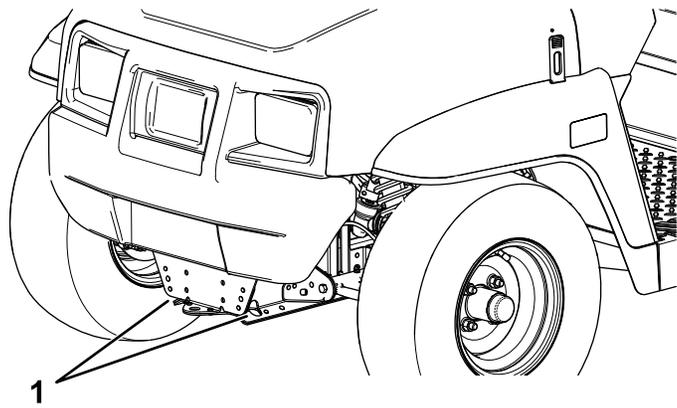
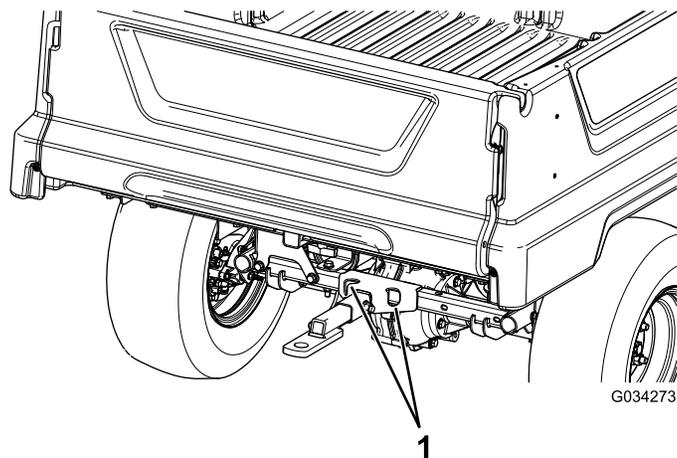

Figure 19
Figure 20
Refer to Figure 19 and Figure 20 for the tie-down locations on the machine.
2. Affix a tow line to the tongue at the front of the machine's frame (Figure 19).